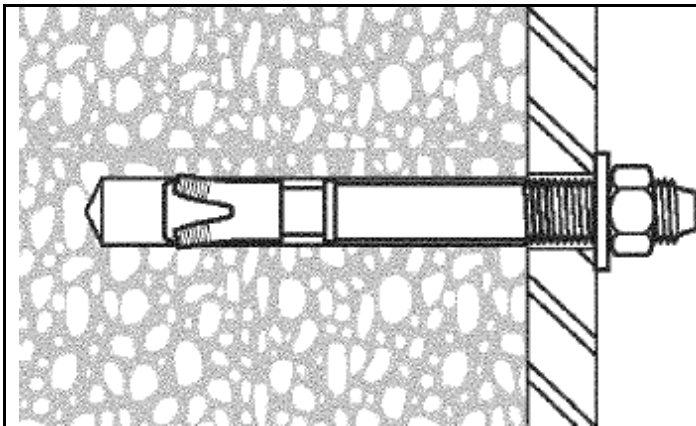

Figure 15: Stud Anchor Installation
- Use two 3/8" Dia HILTI KB3 Expansion Anchors or approved equivalent bolts (min. embed. 3"). See **Figure 15: "Stud Anchor Installation"**. Also see HILTI technical document ESR-2302 for additional concrete anchoring information.